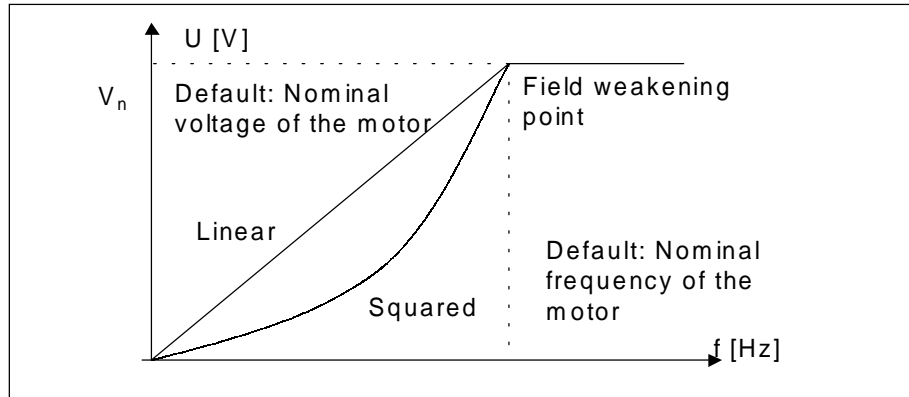

Figure 1.4-2 Linear and squared V/Hz curves.
Linear: The voltage of the motor changes linearly with the frequency in the constant flux area from 0 Hz to the field weakening point (par. 6. 3) where a constant voltage (nominal value) is supplied to the motor. See figure 1.4-2.
**Squared:** The voltage of the motor changes following a squared curve form with the frequency in the area from 0 Hz to the field weakening point (par. 6. 3) where the nominal voltage is also supplied to the motor. See figure 1.4-2.